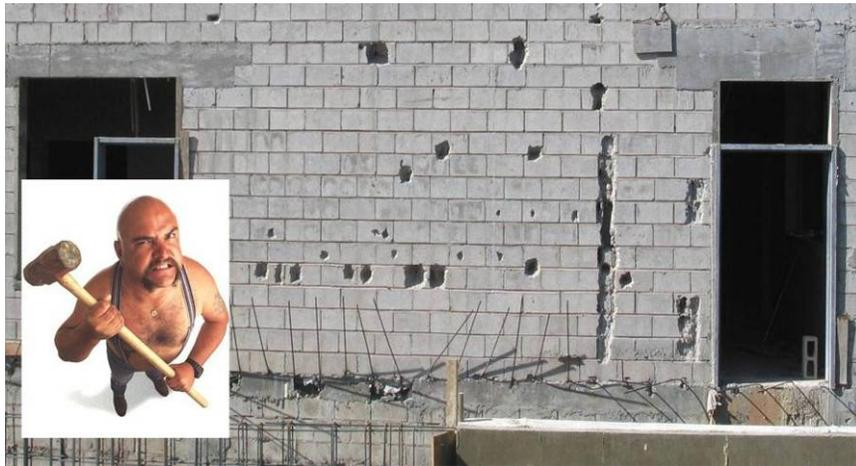

Figure 1. Photo of a CMU wall undergoing destructive testing.
There are many different types of building construction. Infrared (IR) thermography can be an effective tool to find problems with the design and construction of many of these, but an infrared thermographer must have a good understanding of construction and architecture, building physics and the limitations of the IR equipment. He/she must use an imager capable of finding and importantly, documenting problems, as building IR applications can be some of the most demanding on both imager thermal sensitivity and spatial resolution - the two most important factors in an imager's ability to focus in on sometimes physically small and/or thermally miniscule problems. IR can only detect surface temperatures, but those differences in surface temperatures and the patterns (infrared signatures) that they leave can often indicate what is going on inside the structure. There are some common techniques for surveying, but the exact method varies widely depending on the application and on the building. For instance, there is a different way to survey the framing, missing insulation, heat loss, air leakage and moisture intrusion, in the same building. There are some common reasons for building problems which should be investigated first, before the owner invests in an in-depth survey or destructive testing. This paper focuses on common problems in buildings. Non-destructive IR testing is much preferred to destructive testing (see Figure 1) because it is accurate, fast and samples large areas in-situ, during and after construction.